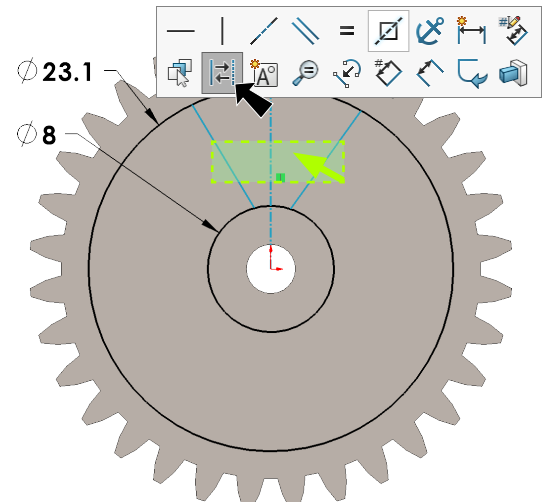
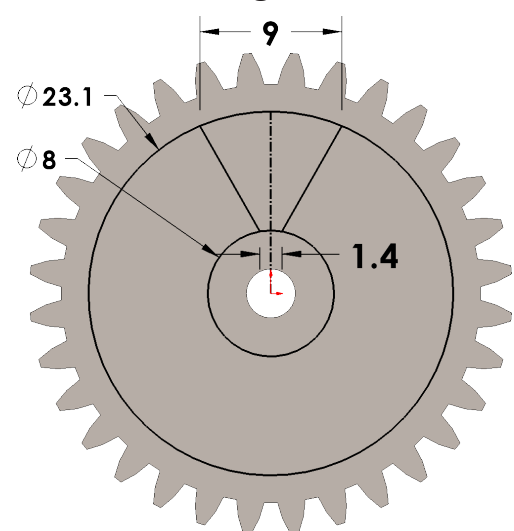

Fig. 11
Fig. 12
Step 11. **Drag a selection to left to cross angled lines and centerline.** Click **Make Symmetric**  on the context toolbar, Fig. 11.
Step 12. Click **Smart Dimension**  (S) on the Sketch toolbar.
Step 13. Add dimensions, Fig. 12.